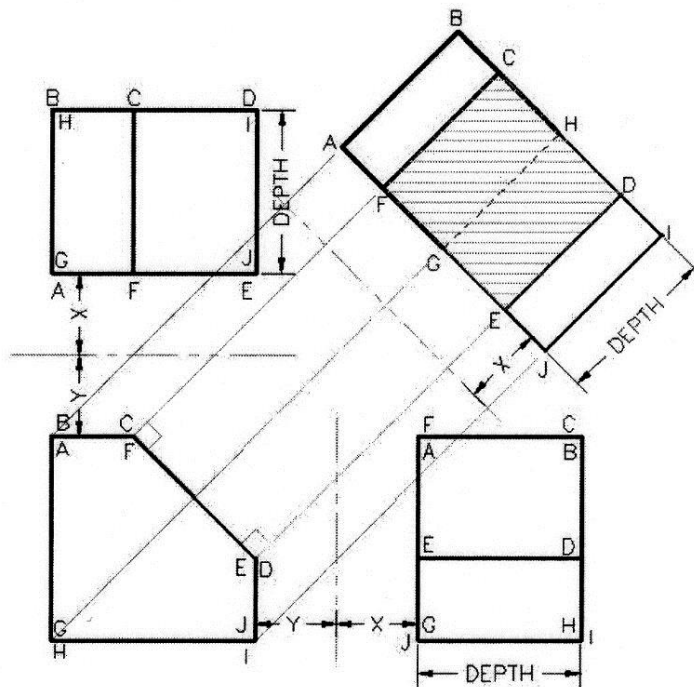

Figure 7. Transferring Distances and Completing the Auxiliary View.
- e. Transfer distances from another view. This view will typically be the view adjoining the view that the auxiliary is drawn from (Figure 7).